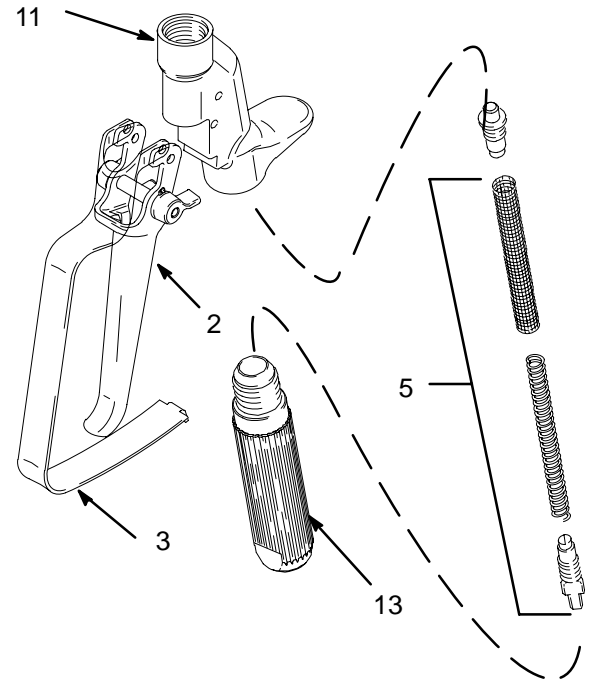

Fig. 5
Cleaning the Filter (Fig. 5)
3. Remove trigger guard (3). (Fig. 5).
4. Hold your finger against trigger with light pressure. Using a 5/16-in, open-ended wrench, turn locknut (D) clockwise until you feel trigger depress slightly.